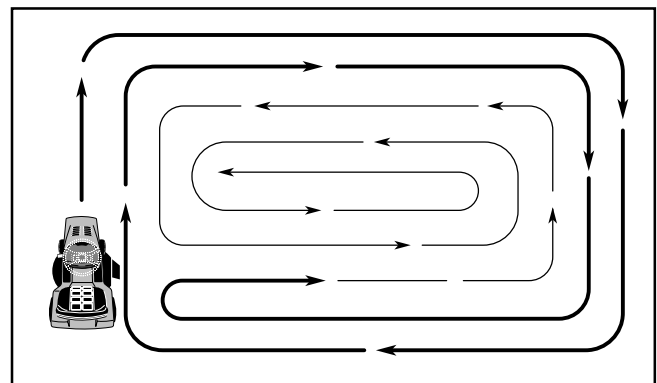

FIG. 14
- When mowing large areas, start by turning to the right so that clippings will discharge away from shrubs, fences, driveways, etc. After one or two rounds, mow in the opposite direction making left hand turns until finished (See Fig. 14).